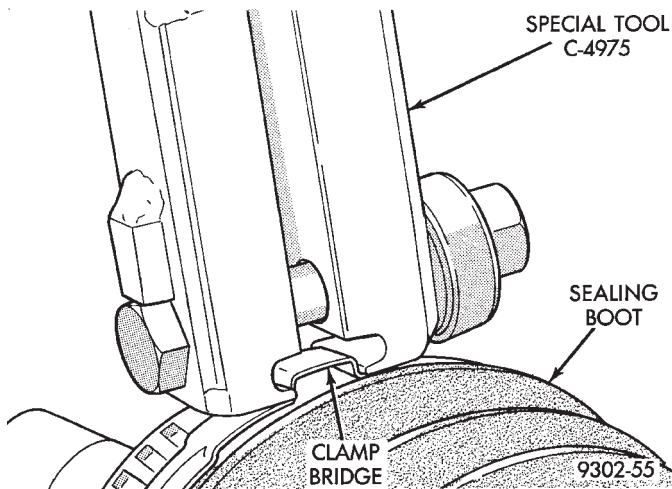
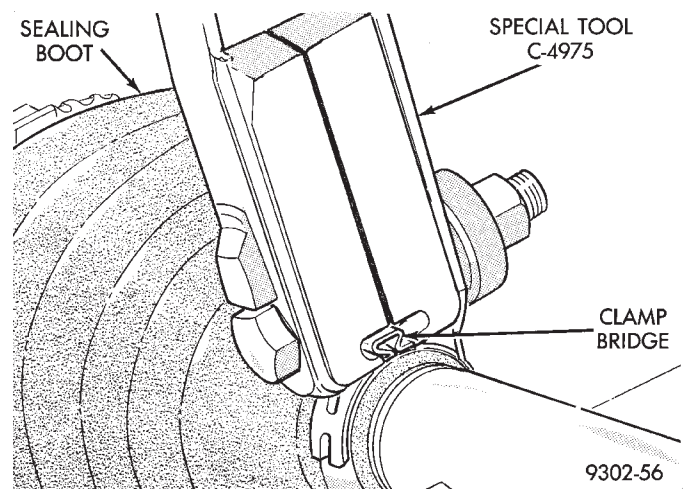

Fig. 4 Crimping Tool Installed On Sealing Boot Clamp
Fig. 5 Sealing Boot Retaining Clamp Installed
(3) Distribute 1/2 the amount of grease provided in seal boot service package (DO NOT USE ANY OTHER TYPE OF GREASE) into outer C/V joint assembly housing. Put the remaining amount into the sealing boot.
(4) Position the sealing boot over the boot retaining groove on the interconnecting shaft. Install seal boot retaining clamp evenly on sealing boot.
(5) Clamp sealing boot on interconnecting shaft using Crimper, Special Tool C-4975 and the following procedure. Place crimping tool C-4975 over bridge of clamp (Fig. 4). Tighten nut on crimping tool C-4975 until jaws on tool are closed completely together, face to face (Fig. 5).
(7) Clamp sealing boot onto outer C/V joint housing using Crimper, Special Tool C-4975 and the following procedure. Place crimping tool C-4975 over bridge of clamp (Fig. 4). Tighten nut on crimping tool C-4975 until jaws on tool are closed completely together, face to face (Fig. 5).